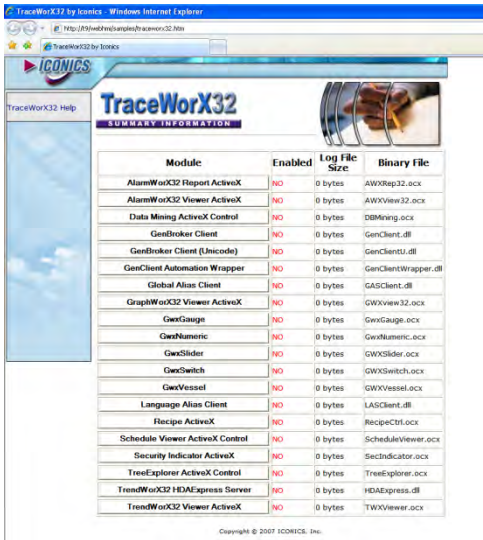

Figure 3 - TraceWorX32 with Available Modules to Trace
4. If you see a screen similar to the Figure 3, you can start using TraceWorX32 in the same way you would use it in a standard GENESIS32 machine.